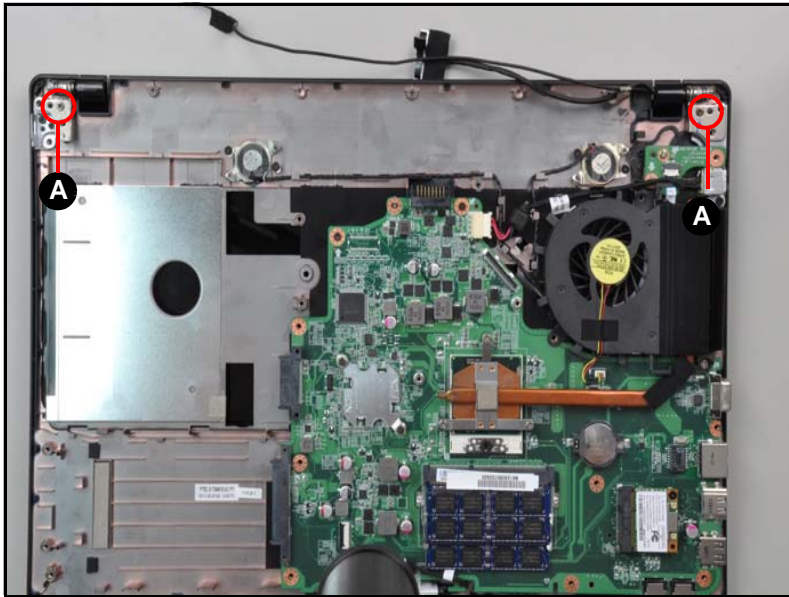

Figure 3-40. LCD Hinge Screws
1. Remove the two (2) screws (A) from the LCD hinges (Figure 3-40).
2. Install and secure two(2) screws (A). Refer to Figure 3-40.